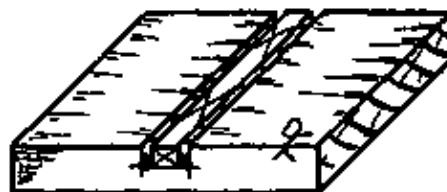

Fig. 4
– Saw the sides of the trench (on the waste side of the lines) down to the gauge lines (Fig. 4).